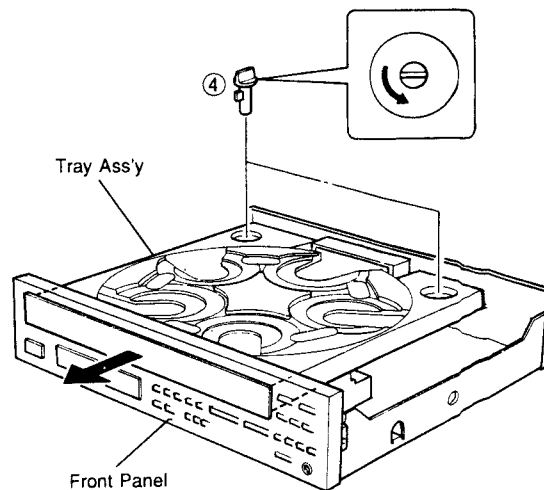

Fig. 6
- a. Turn the stopper/tray pin (④) counterclockwise by 90° degrees to pull it out as shown in Fig. 6.
- b. Slowly remove the Tray Ass'y as shown in Fig. 6. Remove connector #4 from the Main P. C. B. Ass'y (1).